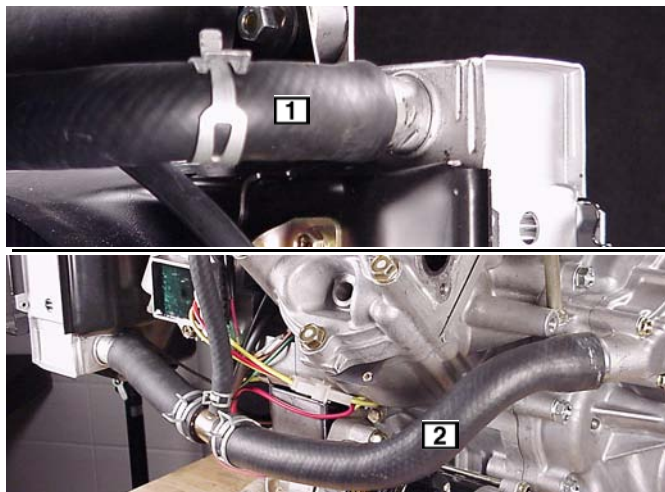

Fig. 35
1. Remove upper **1** and lower **2** radiator hoses, Fig. 35.